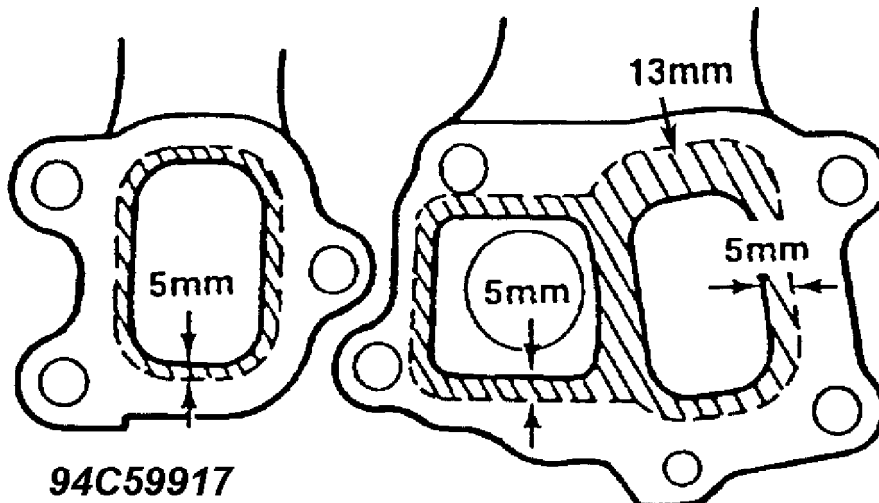

Fig. 1: Location Of Cracks On The Turbocharger
2) At the top of the secondary turbo flange, next to the turbo pre-control valve, cracks of 13mm or less are acceptable. See Fig. 1.